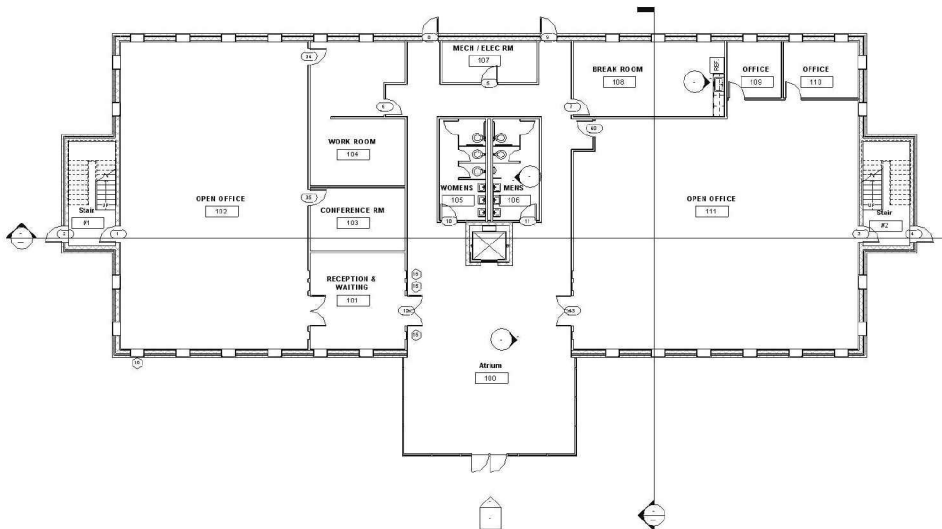

FIGURE 12-1.1 Room tag – Level 1
- Click your cursor within the atrium area to place a **Room**, which will also automatically place a room tag (Figure 12-1.1).
- Add *Room Tags* (using the **Room** tool) for each room on Level 1, incrementing each room number by 1 (Figure 12-1.1).